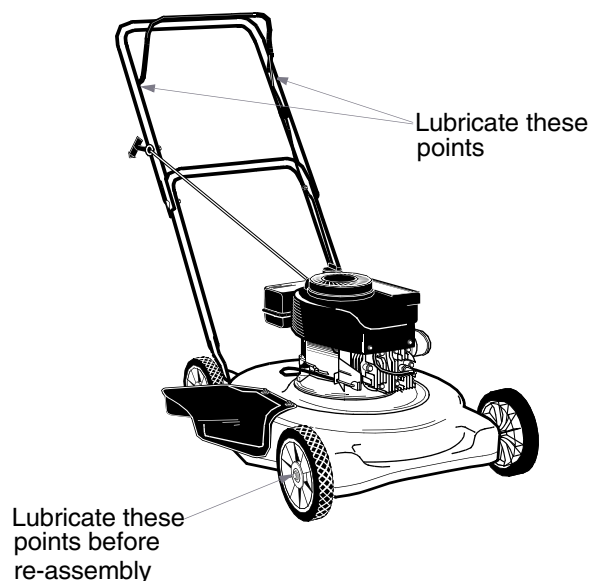

Figure 13
(See Figure 13)
- Lubricate the pivot points on the blade control handle at least once a season with light oil. The blade control must operate freely in both directions. See Figure 13.